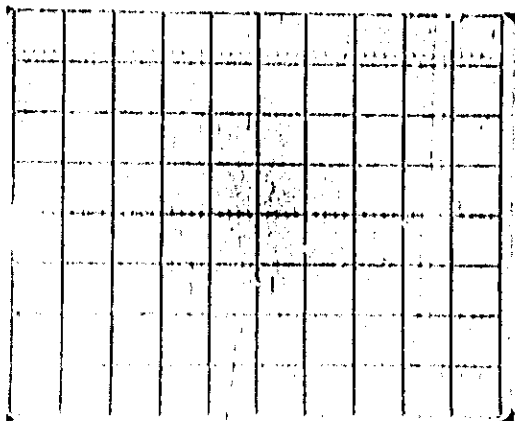

Figure 5-2. Signal at A3TP1. Vert. Sens. 5 mV/div. Horiz. 1 msec/div. External trigger from A8TP2.
- nk. Adjust oscilloscope vertical position control so that initial and final values of the first (that is negative going) triangle wave are equidistant from the center line on the oscilloscope graticule. See Figure 5-2.